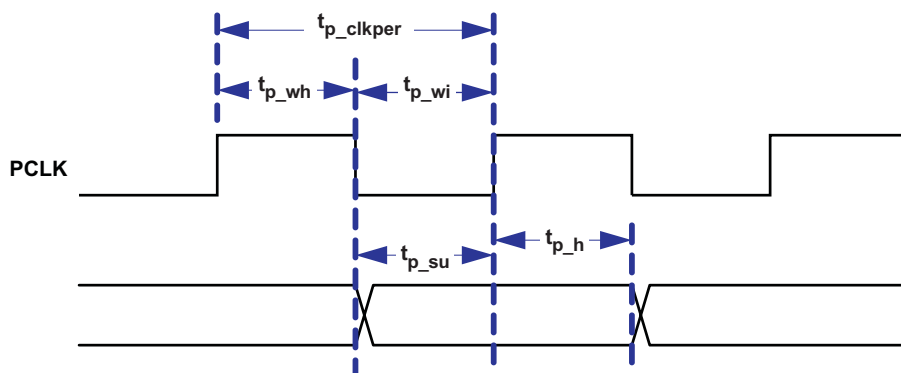

Figure 3. Parallel and BT.656 I/F General Timing
- (1) Clock jitter (in ns) should be calculated using this formula: $\text{Jitter} = [1 / f_{\text{clock}} - 28.35 \text{ ns}]$. Setup and hold times must be met during clock jitter.
- (2) The active (capture) edge of PCLK for HSYNC, DATEN, and PDATA(23:0) is software programmable, but defaults to the rising edge.
- (3) See Figure 3.
(1) The BT.656 I/F accepts 8-bit per color, 4:2:2 YCb/Cr data encoded per the industry standard by PDATA(7:0) on the active edge of PCLK (that is, programmable) as shown in Figure 3.
(2) Clock jitter (in ns) should be calculated using this formula: Jitter = $[1 / f_{\text{clock}} - 28.35 \text{ ns}]$. Setup and hold times must be met during clock jitter.